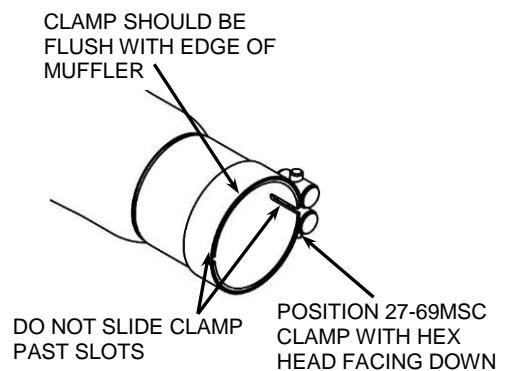

FIGURE 4
14. Position the supplied #27-69 MSC muffler clamp with hex head facing inward and down as shown in **FIGURE 4** and slide it onto the muffler inlet tube.
29. Install the right side passenger foot peg in the threaded hole on the new exhaust mount bracket. See **FIGURE 4**.